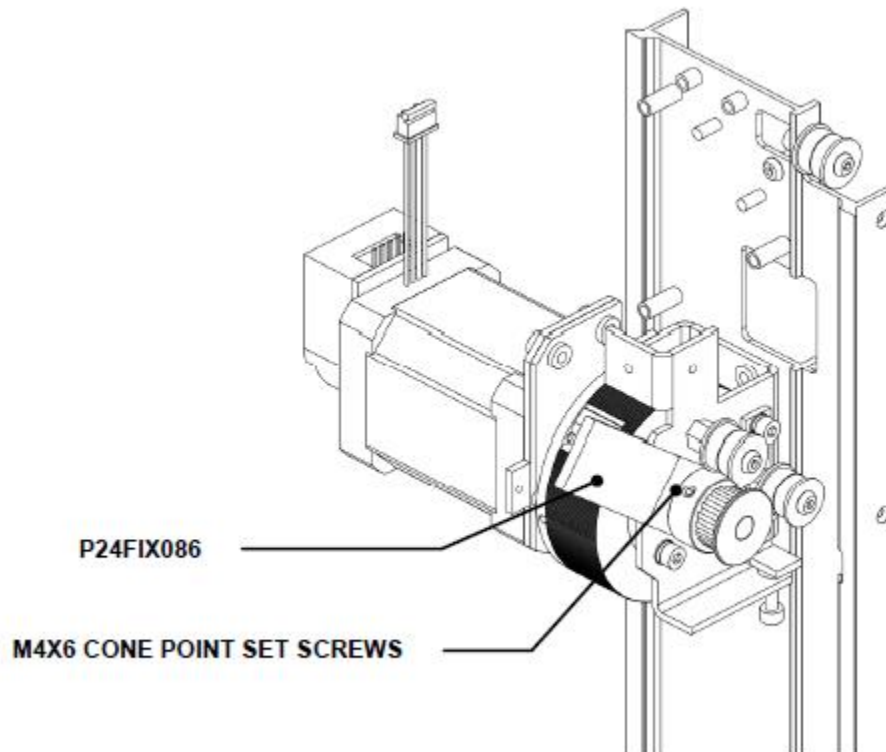

Figure Z-14: Fitting Pulley to Motor Coupling
1. When replacing the module, use Loctite 222 to affix the screws, then fit the TAZD Pulley to Z Motor Coupling using the P24FIX086 fixture to set the gap between the pulley and the Z Motor Bracket as shown in Figure Z-14. Fit with two M4x6 Cone Point Set Screws. Use Loctite 222. Do not fully tighten the screws yet, allowing rotation of the pulley on the shaft.